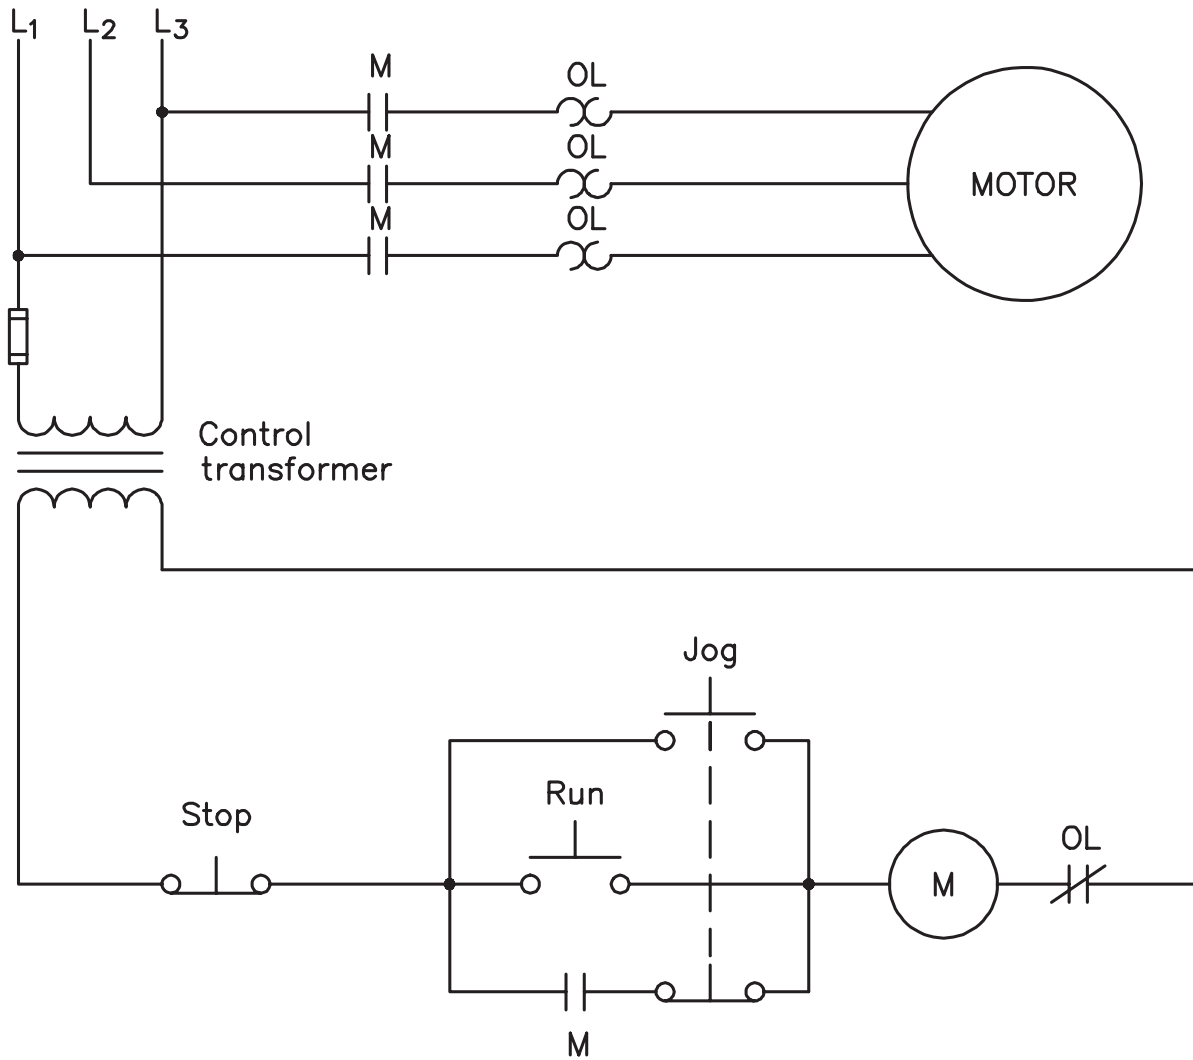

Figure 30-3 Jogging control using a double-acting push button.
Another method of constructing a run-jog control is shown in Figure 30-3. This circuit employs a double-acting push button as the jog button. The normally closed section of the button is connected in series with the normally open M auxiliary holding contact. If the jog button is pressed, the normally closed section of the button opens to disconnect the
1. Using the schematic shown in Figure 30-3, place wire numbers beside the components.
3. Connect the circuit using the schematic diagram in Figure 30-3.